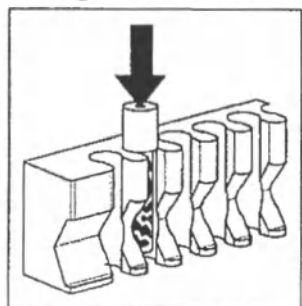

Figure 3
- c. Push the activated indicator down to seat it in the metal heating block. (See Figure 3). Be sure that the cap remains above the metal block when seated in the incubator.